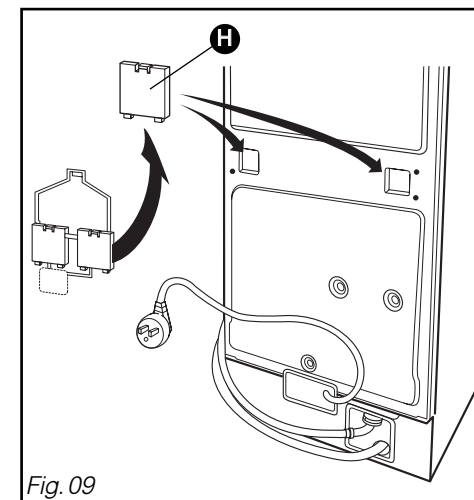

Fig. 09
- Plug the holes left by the brace using the remaining 2 covers **H** (Fig. 09) and screw the 4 screws **E** back in their original position in the body.